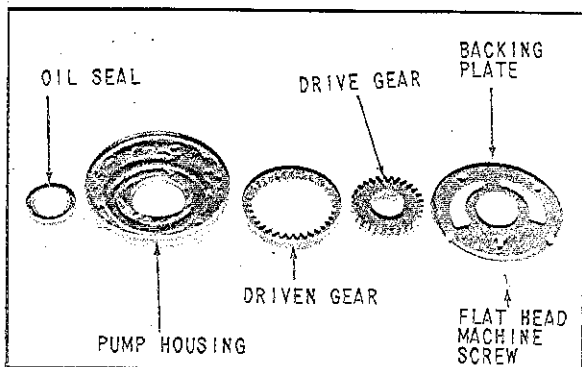

Fig. 91 Front Pump Parts with Backing Plate, Assembly 71-1A60
5. Collect the parts shown in (Fig. 91) and check carefully for the following: